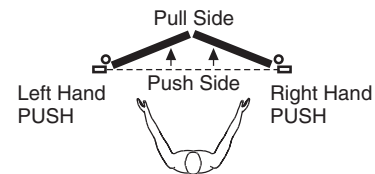

Figure 2
2. Determine if push or pull and if left hand or right hand installation. (Figure 2)